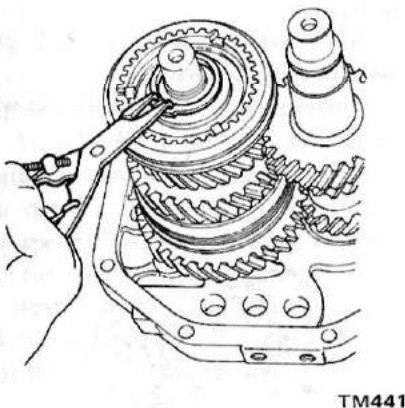

Fig. TM-32 Installing snap ring
5. Install thrust washer on mainshaft and secure it with snap ring of proper thickness that will fit the groove in mainshaft. See Figure TM-32.